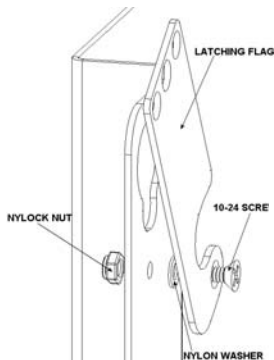

Figure 2
1. Attach latching flag to PSM (see Figure 2). Tighten the nut and screw until friction will hold the flag in place.